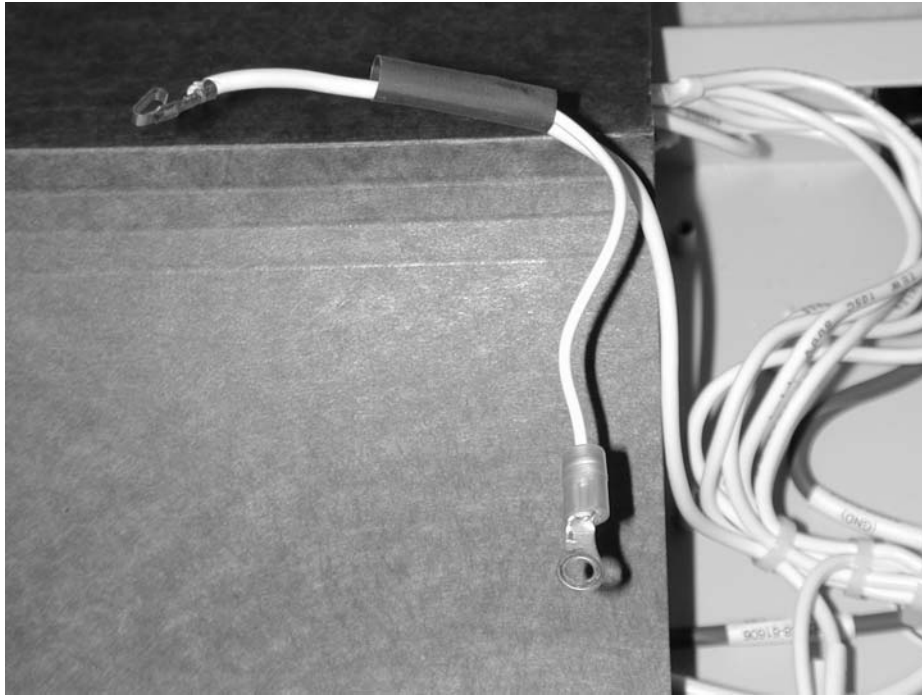

Figure 8. Heat shrink in place.
- Add a piece of heat shrink tubing (20mm long) over the soldered section (Figure 8). Use a heat gun to seal the heat shrink.